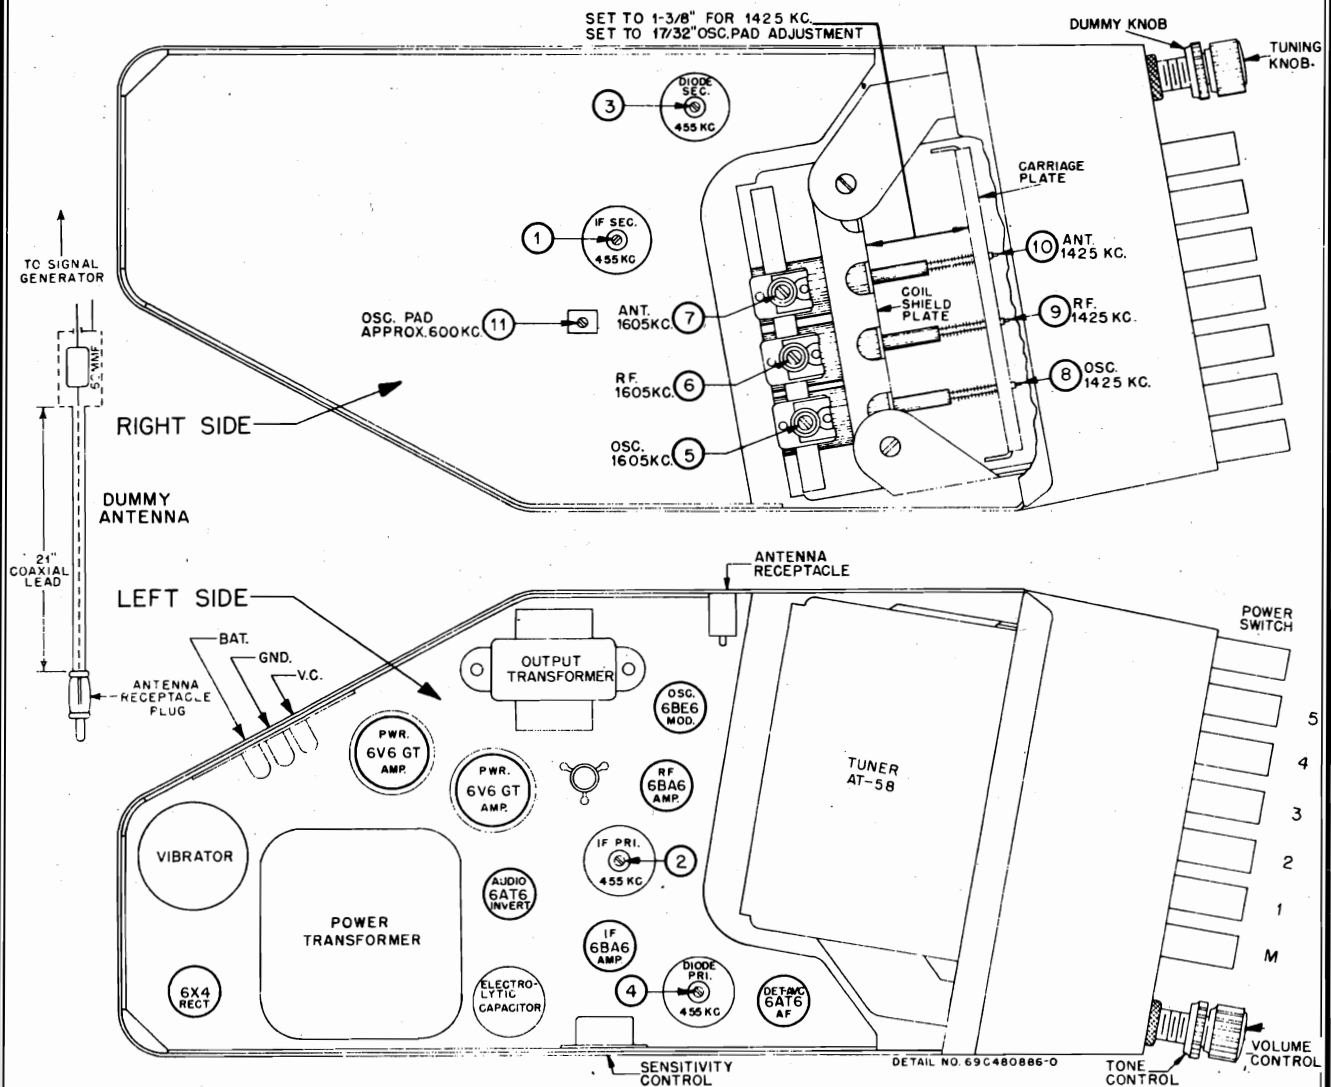

FIGURE 4. TUBE & TRIMMER LOCATIONS
5. A special dummy antenna for RF alignment. Construct dummy antenna as shown in Figure 4. The 21" coaxial lead needed in its construction is the same type as used for lead-in on Motorola car antennas.